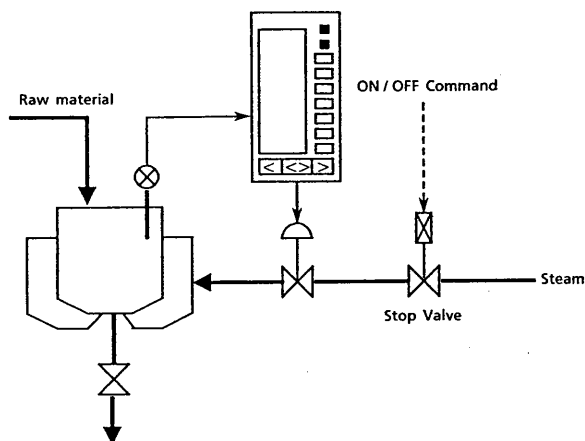
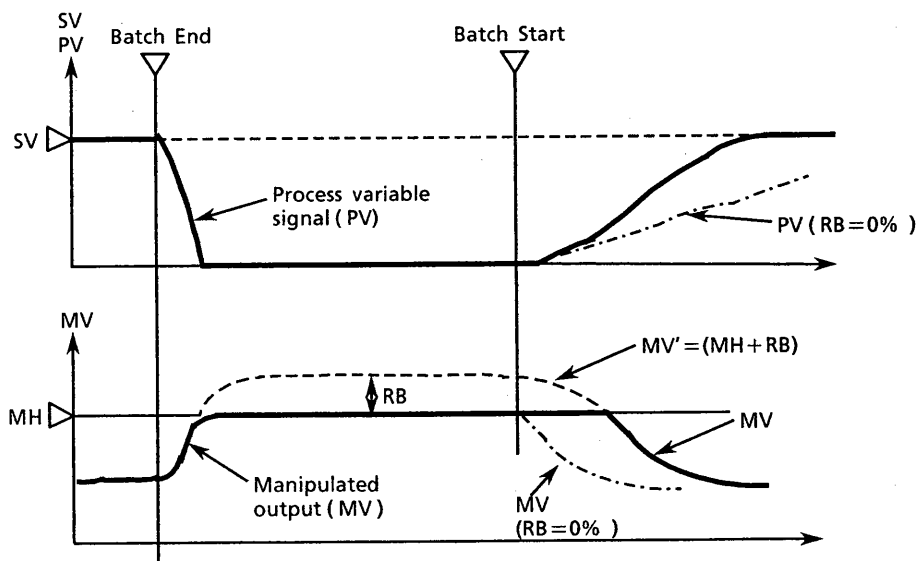

Figure 3.4.11 Simple Batch Process
Figure 3.4.12 PID Control with Reset Bias Function
For the simple batch heating process shown in Figure 3.4.11, at batch end the steam stop valve is closed but the controller settings and control mode (e.g. Auto) are left “as they are”. In this case, for a PID controller with reset bias, the relationship between inputs and outputs is as shown in Figure 3.4.12. The manipulated variable output remains clamped at MH after PV starts reverting towards SV, due to reset bias, a type of reset windup ( $MV' = MV + RB$ ).
On the other hand, when a simple output limiter (with reset bias = 0%) is used, there is no reset windup, and as soon as the process variable begins to start up, the manipulated variable leaves the limit value (MH). Thus, as shown by the dotted line in Figure 3.4.12, the startup time for PV (for  $RB = 0$ ) is relatively long.